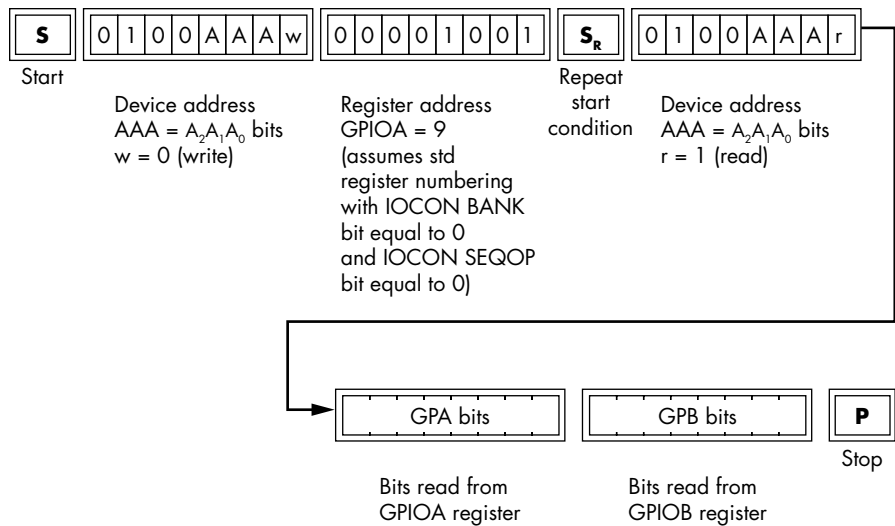

Figure 13-9: GPIO sequential read operation
7. (optional on MCP23017) Read the second set of GPIO bits (GPIOB) from the I²C bus (see Figure 13-9).